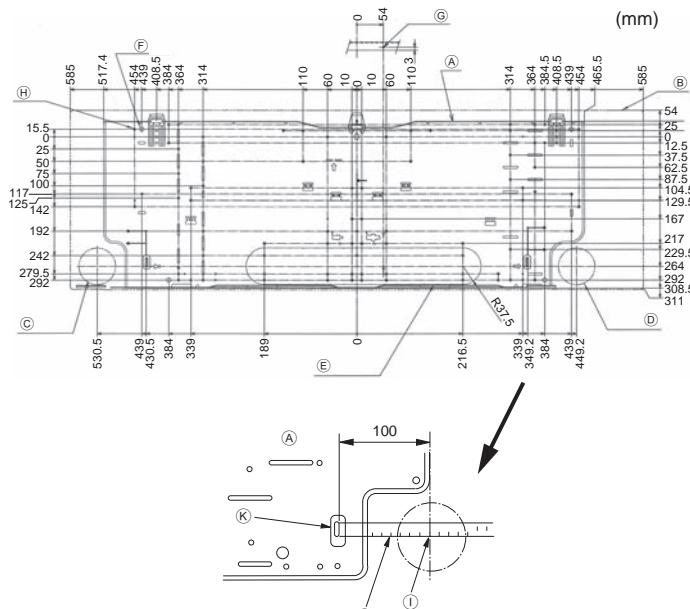
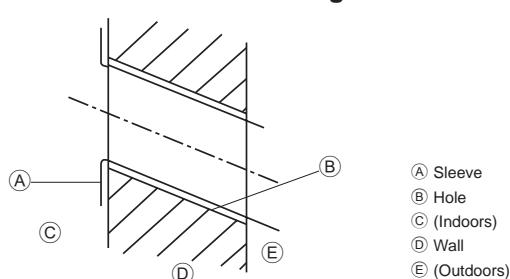

Fig. 3-2
Fig. 3-3
■ PKFY-P-VKM-E (Fig. 3-2)
- (A) Mount board ①
- (B) Indoor unit
- (C) Bottom left rear pipe hole (ø75-ø80)
- (D) Bottom right rear pipe hole (ø75-ø80)
- (E) Knockout hole for left rear hole (75 x 480)
- (F) Bolt hole (4-ø9 hole)
- (G) Center measurement hole (ø2.5 hole)
- (H) Tapping hole (75-ø5.1 hole)
- (I) Hole centre
- (J) Align the scale with the line.
- (K) Insert scale.
3.2.2. Drilling the piping hole (Fig. 3-3)